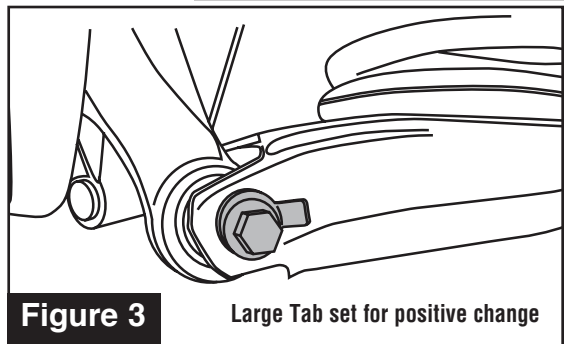

Figure 3
7. For positive camber change, point the large tabs toward center of vehicle. For negative camber change, point large tabs away from center of vehicle. Adjust Camber by turning bolt head. **Fig 3**.